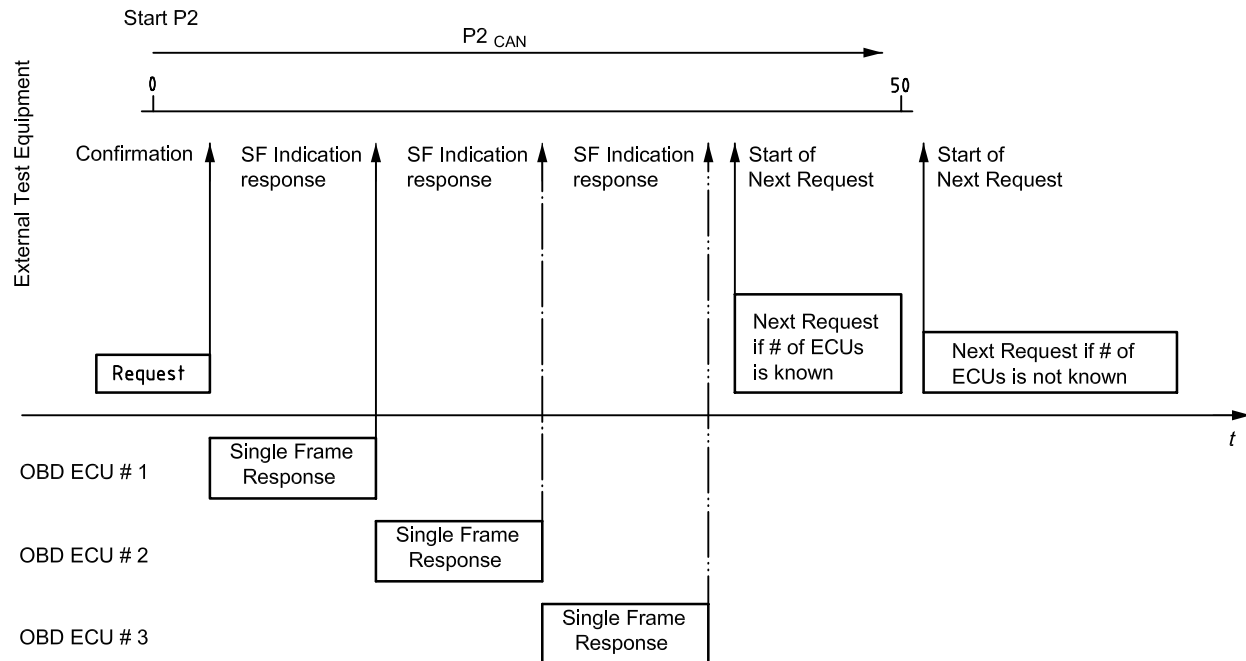

FIGURE 6 - ISO 15765-4 APPLICATION TIMING PARAMETER
Figure 6 shows an example of a request message followed by three (3) single-frame response messages and another request message.